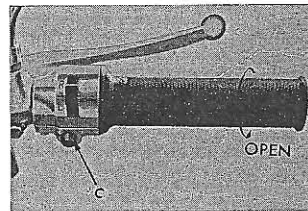

Fig. 6
4. Fully open the throttle grip twisting inwards. (fig. 6)
5. Push the starter button **c** for about **3 seconds** to feed petrol into the cylinder. (fig. 6)